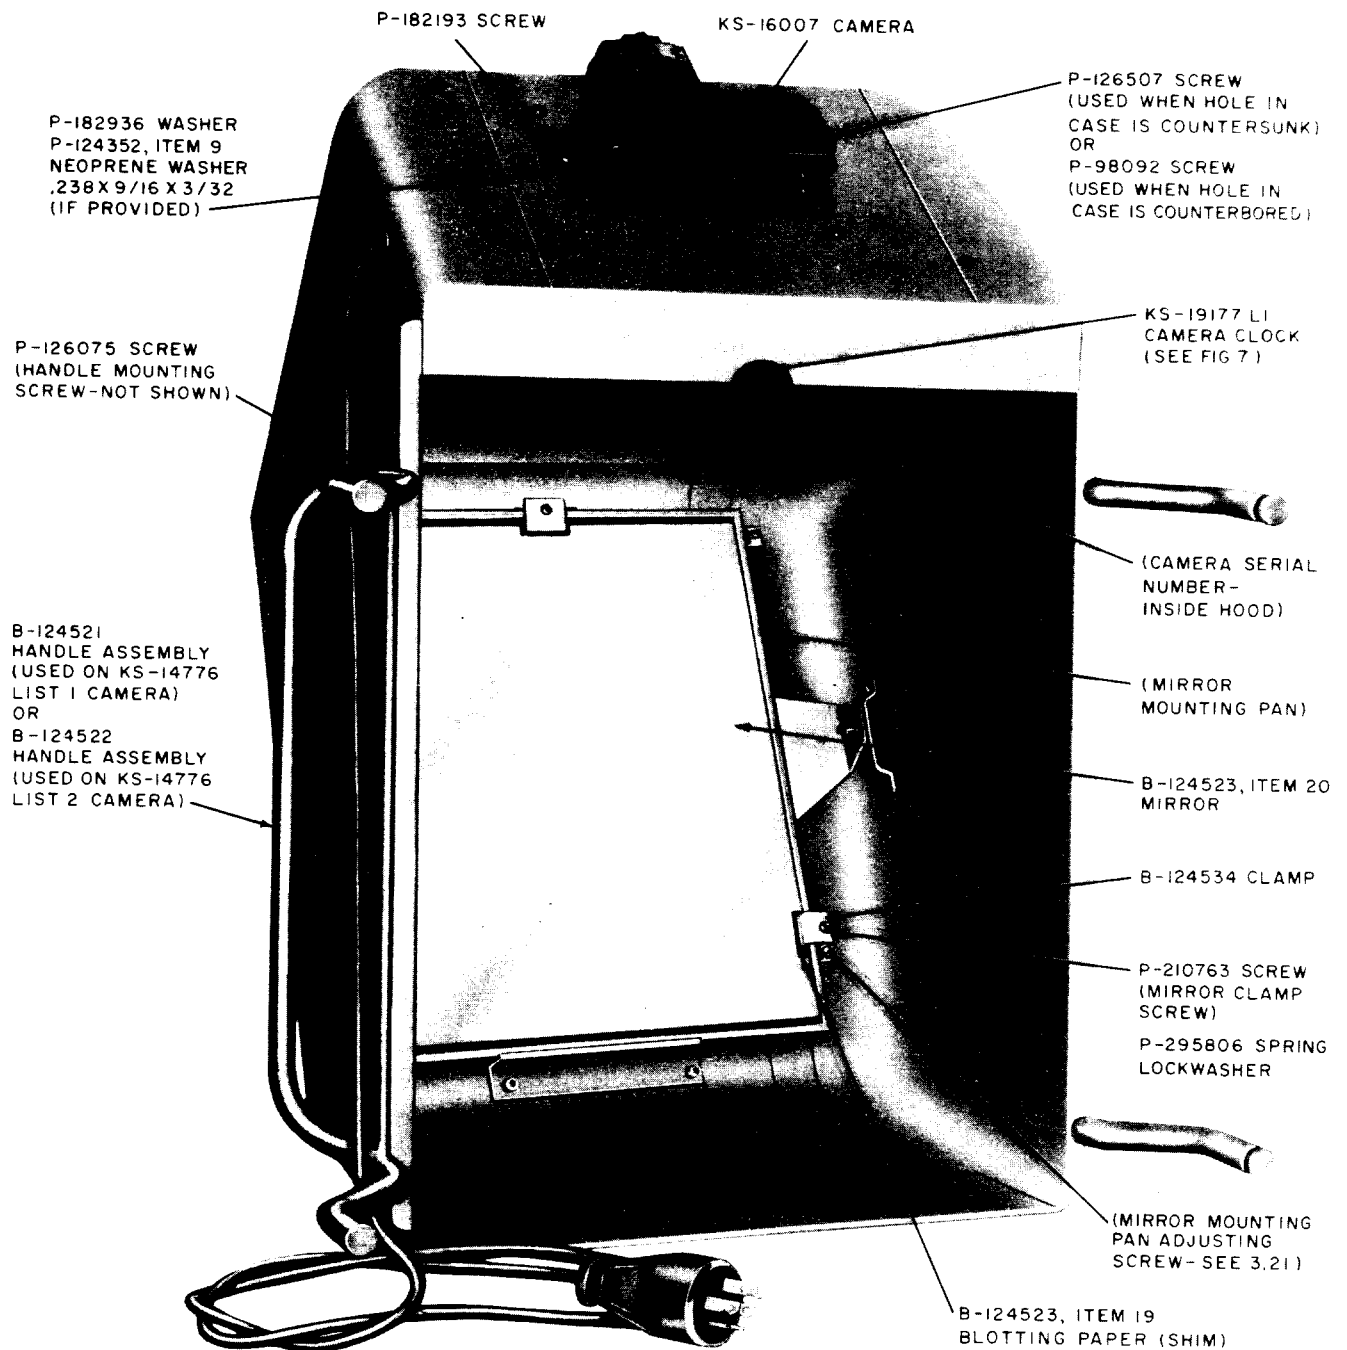

Fig. 6—KS-14776 Camera
3.19 KS-19177 L1 Clock: Fig. 6 and 7
3.21 Mirror: Fig. 6